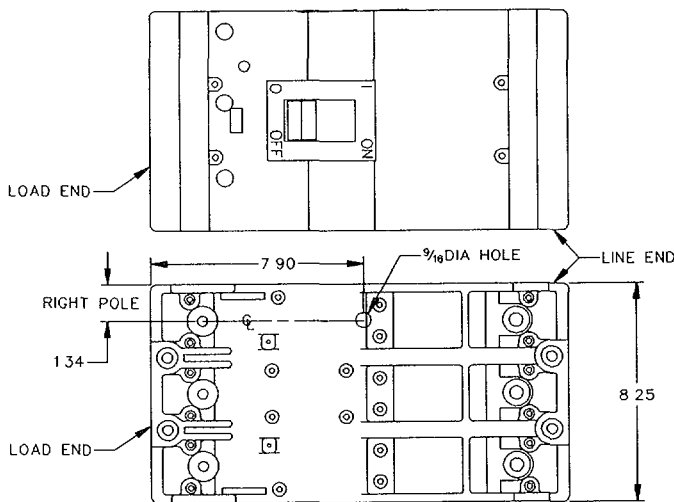

Figure 1. Types TKM and THKM breakers, showing the location of the hole to be drilled in the rear of the breaker case.
2. Drill a $\frac{9}{16}$ "-diameter hole through the rear of the breaker cases, as shown in Figure 1.